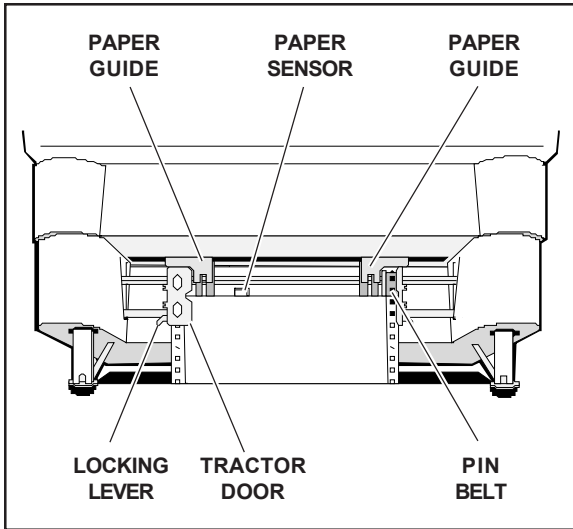

Figure A-4. Loading Paper in the Bottom Path
5. Slide the tractors and paper left or right as needed until the paper holes on the left side of the paper align with the circles on the ruler, as shown in figure A-4. Then, push back the left tractor locking lever to lock that tractor in place.